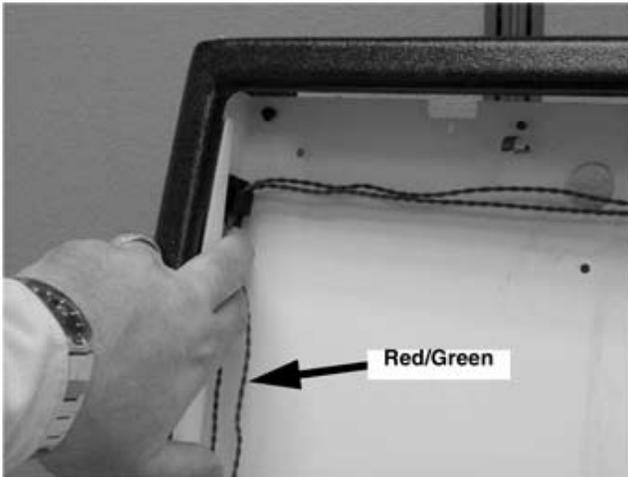
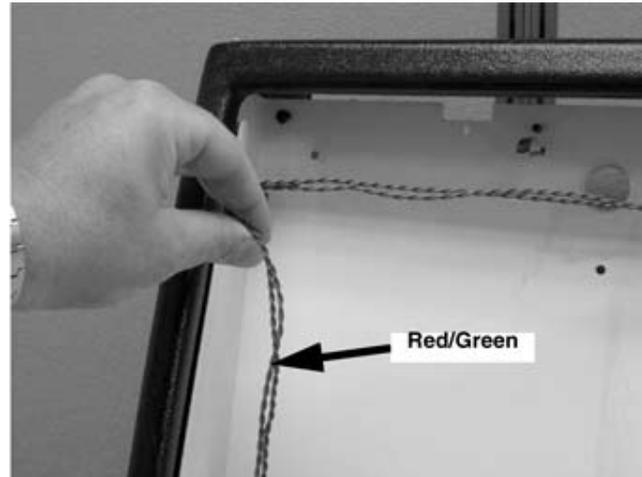

Figure 38.
Figure 39.
- D. Locate wire pair and clip on left side-corner of merchandiser, see Figure 38 Remove pair from clip, see Figure 39.